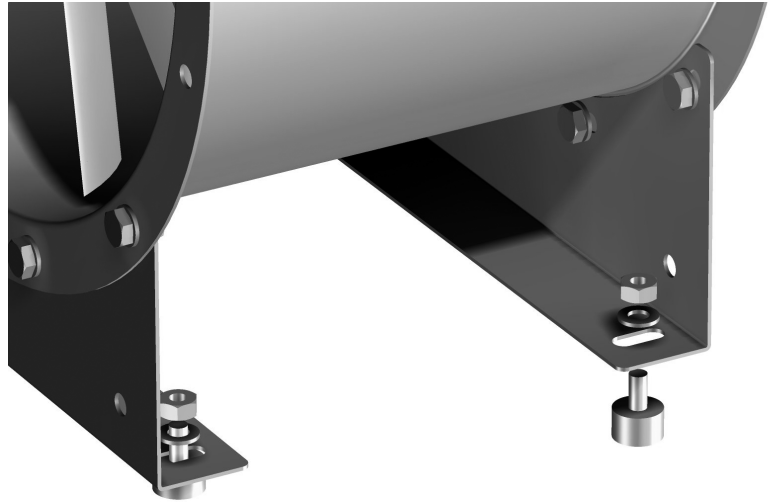

Fig. 5: Fixing the fan
- The foundation is prepared according to fig. 5.